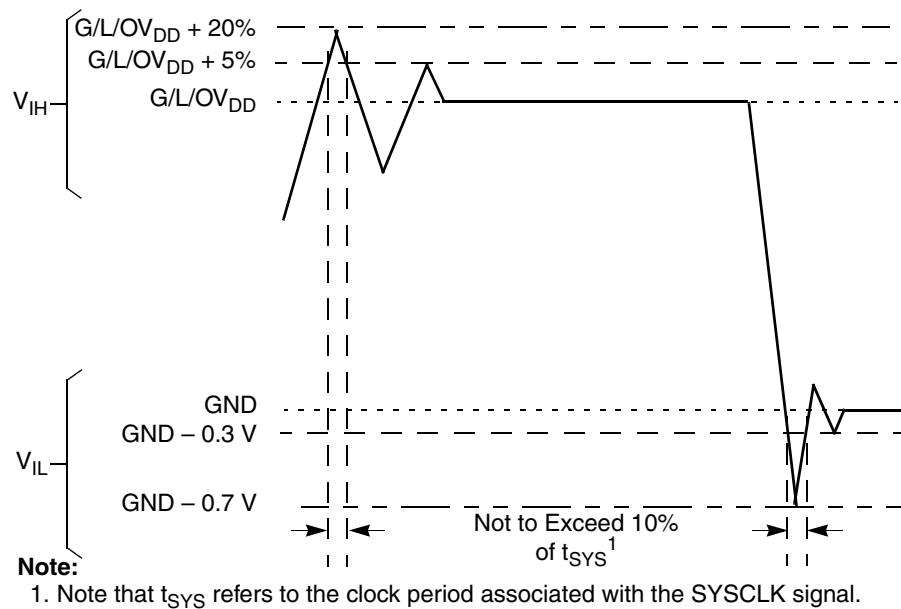

Figure 2. Overshoot/Undershoot Voltage for $GV_{DD}/OV_{DD}/LV_{DD}$
- (M,L,O) V_{IN} and MV_{REF} may overshoot/undershoot to a voltage and for a maximum duration as shown in Figure 2.
Figure 2 shows the overshoot and undershoot voltages at the interfaces of the MPC8555E.